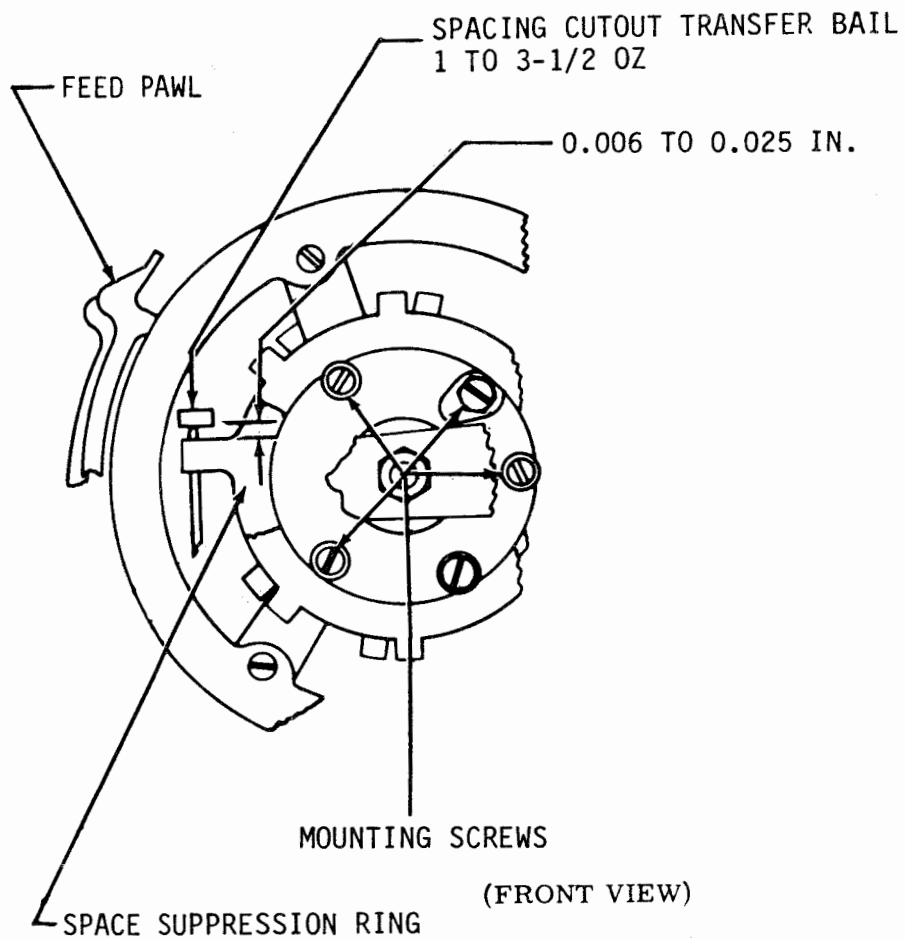

Figure 6-92. Right Margin and Spacing Cutout Transfer Bail Spring
- (a) Refer to figure 6-92.
(16) Spacing Cutout Transfer Bail Spring. Adjust spacing cutout transfer bail spring as follows: